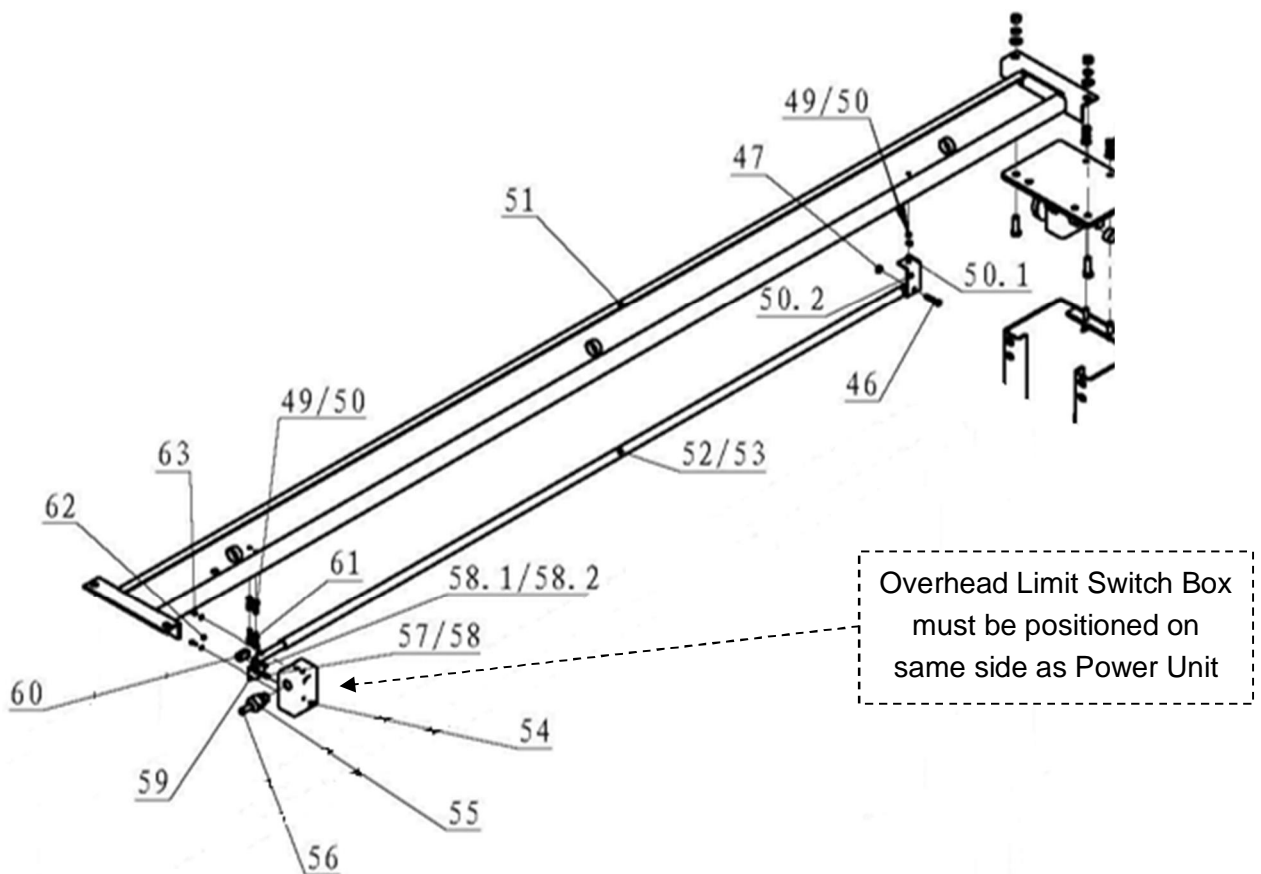

Fig. 6
2. Assemble and mount the Overhead padded Shut-Off Bar & Limit Switch assembly to the Overhead Beam, as shown below in (Fig 6).
3. Using a lifting device, raise the Overhead Beam assembly and position on top of the columns. Bolt it to the columns using the bolts, nuts, and washers, as shown in (Fig. 6).